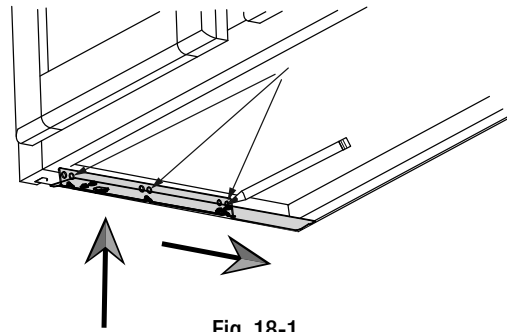

Fig. 18-1
- Align the bracket against the inside edge of the 30 in (762 mm) cabinet frame and the back wall. Mark the location of 3 holes (out of the available 6 holes) as shown in fig. 18-1.